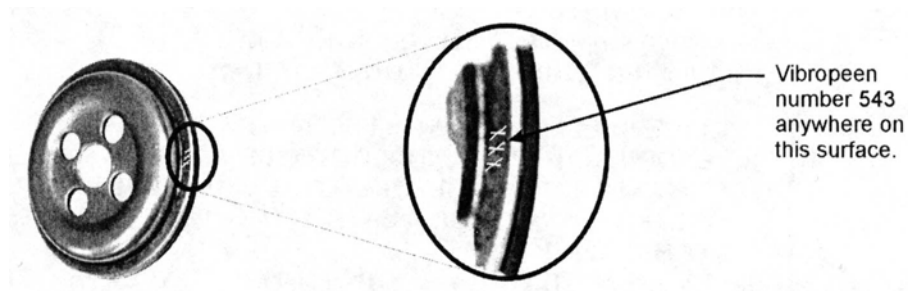

Figure 2. 543 Vibropeen Marking
- c. After the gasket is installed and bonded, vibropeen the number 543 along the outer surface of the converter plate flange as shown in Figure 2.
The converter plate in each kit is identified with the part number 54E23092 permanently marked on the plate in the same location as shown in Figure 2.